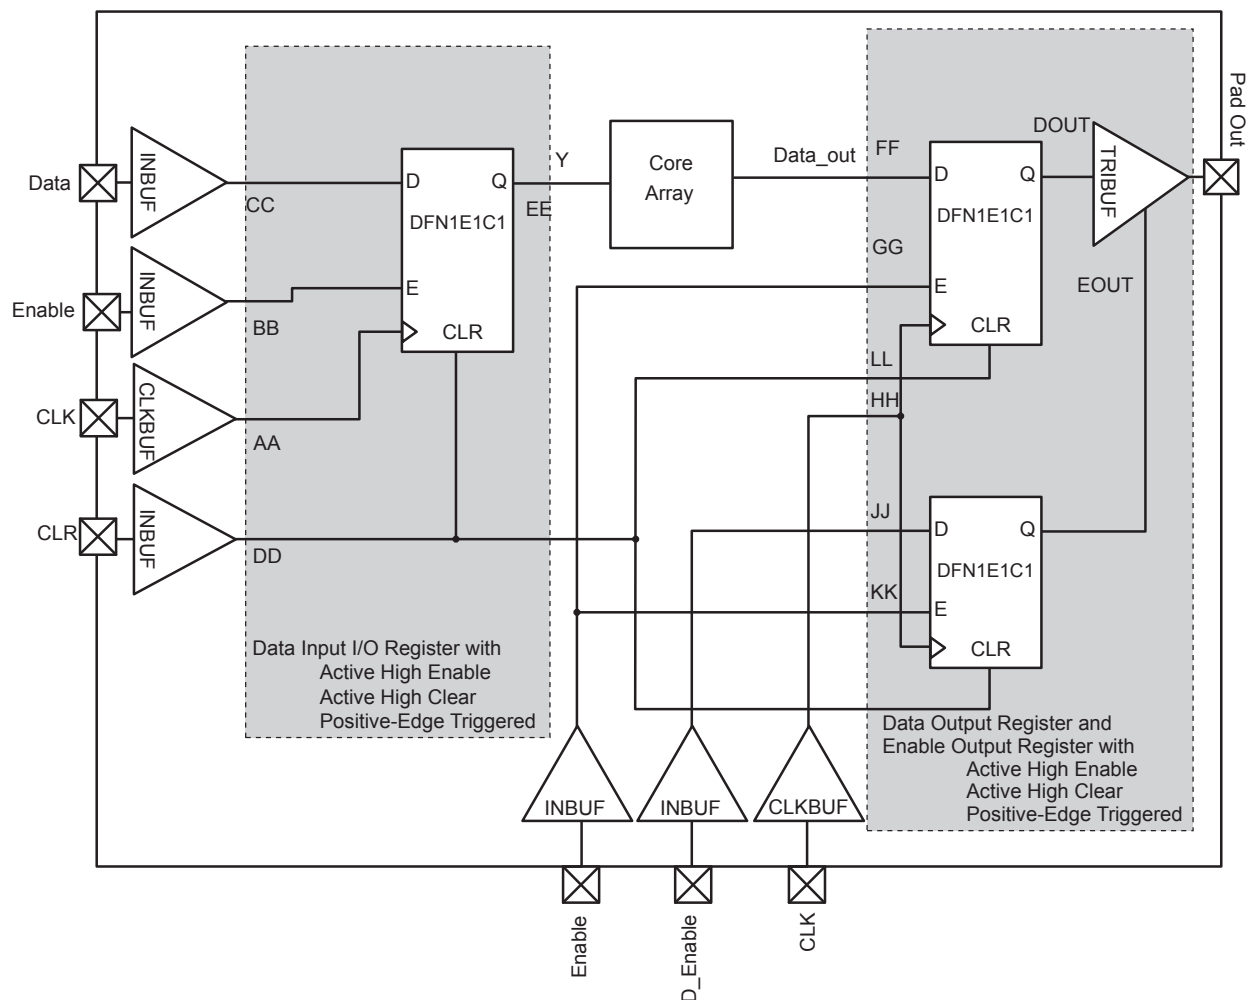

**Figure 2-27 • Timing Model of the Registered I/O Buffers with Synchronous Enable and Asynchronous Clear**
*Note:* \*See Figure 2-27 on page 2-107 for more information.